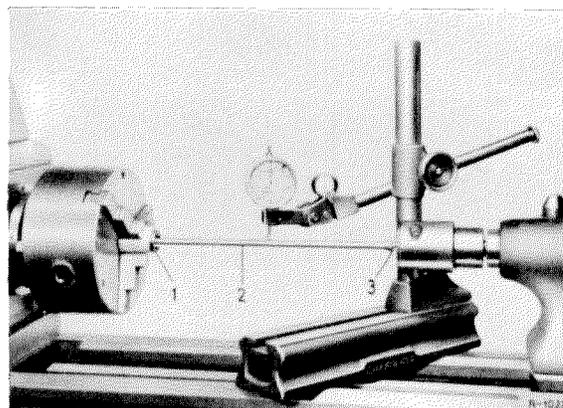

Figure 05-3/1
Check alignment of push rod. To do this, clamp a tappet (1) in the jaw chuck of a lathe, and a ball head pin (3) in a drill chuck in the tailstock. Then mount the push rod (2) between the tappet (1) and ball head pin (3) without tension (see Figure 05-3/1). Turn the push rod (2) by hand and measure the deflection at 2-3 points of the push rod between the tappet and the ball head pin with a gauge (see Figure 05-3/1).